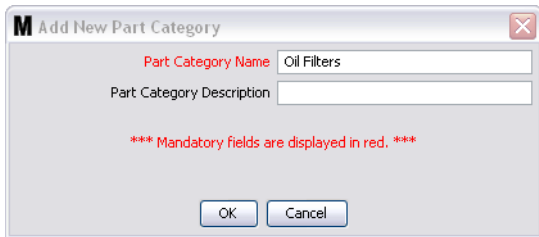

FIG. 194
1. Click **New Category** button to display the dialog box shown in FIG. 194.